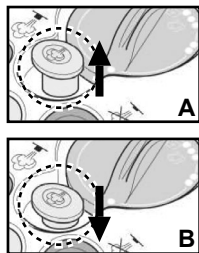

FIGURE 4
**IMPORTANT:** Make sure Steam Button is locked in lowered position (FIGURE 4-B) before dry ironing. This will prevent any water from accidentally dripping.
3. When Heating Indicator Light turns off, press Steam Button. Button will lock into raised position (FIGURE 4-A), and unit will begin emitting steam from steam vents on Ironing Plate.
4. To stop steam flow during use, press Steam Button again to lock it into the lowered position. This will prevent dripping in the upright position (FIGURE 4-B).